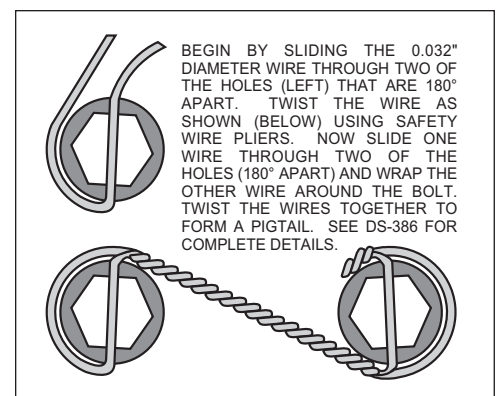

Figure 4. Safety Wire Diagram
- Apply red *Loctite*® 271 to bolt threads (3) before assembly of the caliper mounting bracket (1). Mount bracket (1) to dust face plate of spindle using washers (2) and bolts (3). Torque bolts (3) to 22 ft-lb. **NOTE:** Be sure the heads of the bracket (1) insert nuts are facing outward toward the wheel.
- Install wheel studs (4) into the hub (5). Torque to 77 ft-lb.
- Pack the large inner bearing cone (6) with high temperature disc brake bearing grease (available from your local auto parts store) and install into the backside of the hub (5). Install the grease seal (7) by pressing into the backside of the hub (5).
- Pack the small outer bearing cone (8) with high temperature disc brake bearing grease and install into front of hub (5). Slide the hub with outer bearing cone (8) onto the spindle. Secure using stock washer, adjusting nut and nut locking device. Adjust bearings per Original Equipment Manufacturer (OEM) specifications.
- Install the dust cap (10) onto the hub (5). Friction created by the o-ring (9) on the dust cap (10) keeps it from unscrewing. The O.D. of the existing spindle washer may be larger than the I.D. of the dust cap (10) not allowing it to seat against the hub face. Some grinding on the washer O.D. may be necessary to clear the I.D. of the dust cap (10).
- With the larger I.D. side of the rotor (11) facing away from the hat (12), bolt rotor (11) to hat (12) using washers (13) and bolts (14). Torque bolts (14) to 85 **in-lb**. Safety wire bolts (14) using standard 0.032 inch diameter stainless steel safety wire as shown in Figure 4. Please refer to Wilwood's data sheet DS-386 (available at [www.wilwood.com/pdf/ds386.pdf](http://www.wilwood.com/pdf/ds386.pdf)) for complete safety wire installation instructions.
- NOTE:** Please reference the caution statement at the beginning of the assembly instructions. With the bleed screws pointing up, mount the caliper (16) onto the caliper bracket (1) with the flat washers (17), lock washers (18), bolts (19) and caliper spacer (15) positioned between caliper and bracket. Finger tighten. View the rotor (11) through the top opening of the caliper (16). The rotor (11) should be aligned in the center of the caliper (16). If not, adjust the caliper (16) by using 0.032 inch thick shims (20) placed between the caliper spacer (15) and the caliper (16). Finger tighten and recheck alignment. Apply red *Loctite*® 271 to bolt threads (19) and torque to 47 ft-lb. Safety wire caliper bolts (19).
- Remove the bridge bolt from the caliper (16) and install the disc brake pads (21). Reinstall the caliper bridge bolt.